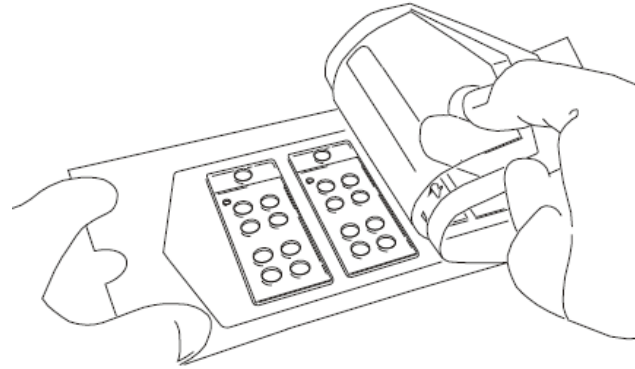

Figure 1
1. Place the MultiWell coverslip package onto a work surface as shown in Figure 1.
2. Aseptically peel back the sterile pouch and top plastic liner to expose coverslips as shown in Figures 1 and 2.